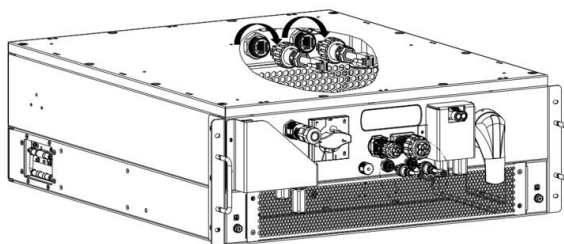

Figure 6-25 Insert the RJ45 crystal head
Step 5: Insert the RJ45 crystal head and wire end body into the board end connector, manually tighten the connecting nut clockwise with a torque of approximately 1N·m to the stop position, as shown in Figure 6-25.